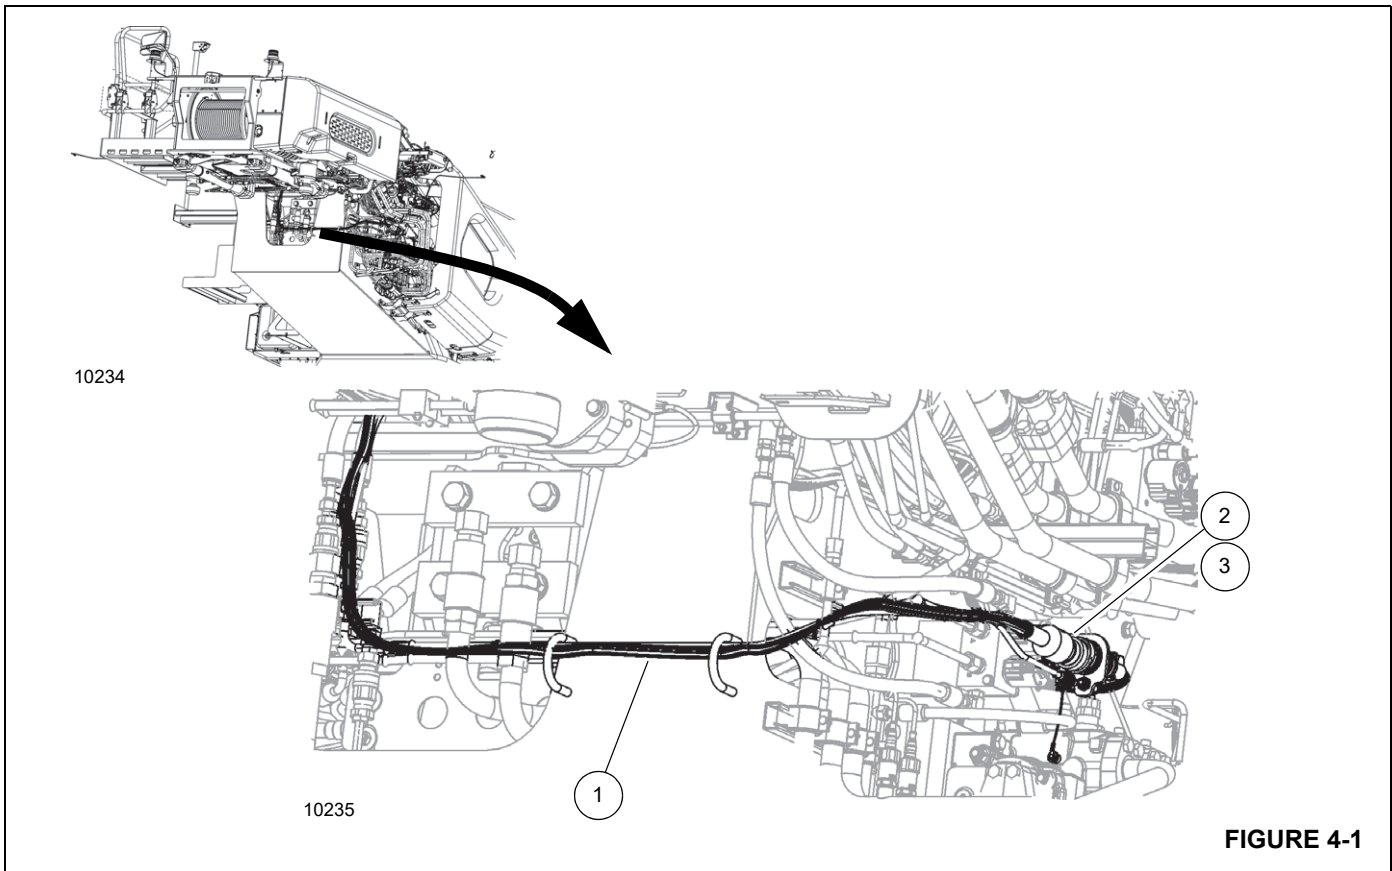

FIGURE 4-1
6. Remove the rear maintenance cover from the right side of the superstructure. Disconnect the boom electrical connectors (2 and 3, Figure 4-1). Route the electrical cable (1) through the superstructure and secure the cable.